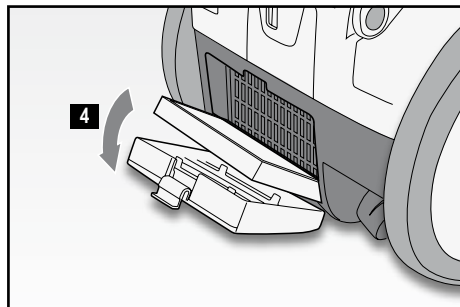

Fig. 5
- Rear HEPA filter. Not washable. When it is obviously dirty, it needs to be replaced with a new one. To remove it, open the back cover by pressing the small clip downwards (4 - Fig. 5).